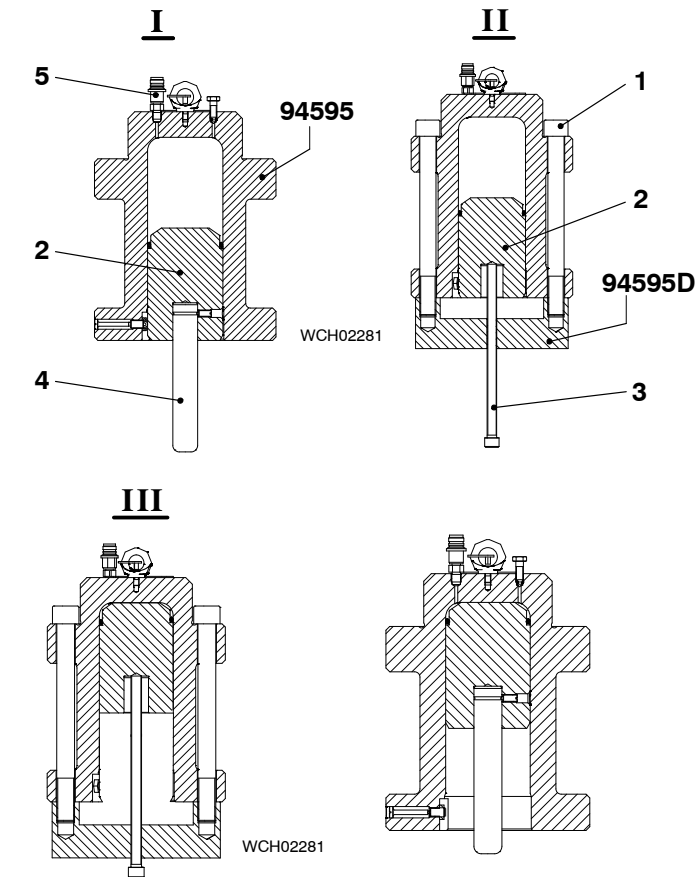

Fig. 2
- 1) Open the vent screw (5, Fig. 2).
- 2) Use the push rod (4) to push the piston (2) to the top of the cylinder of hydraulic ram (94595).
- 3) If you cannot move the piston (2) with your hand, do step a) to step c):
- a) Remove the push rod (4, 94595B or 94595C) from the piston (2).
- b) Attach the piston reset tool (94595D) to the hydraulic ram (94595) with two of the screws (1).